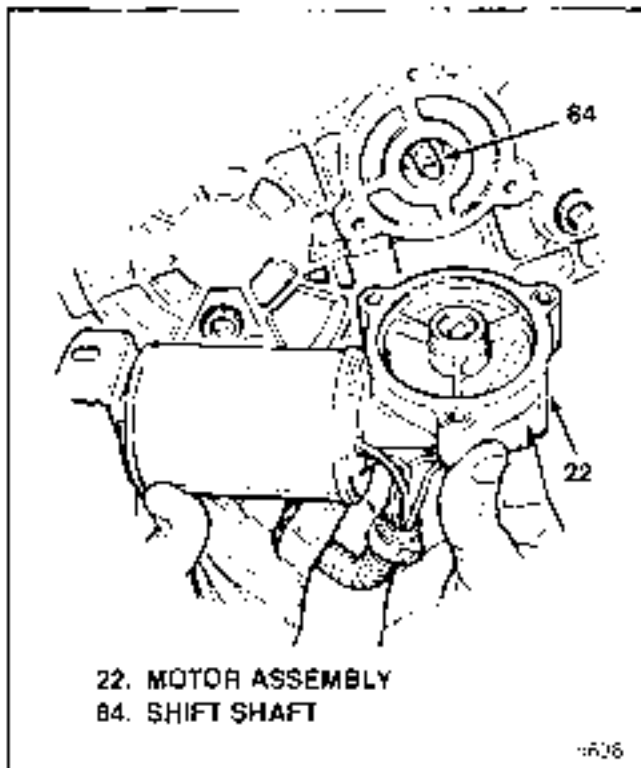
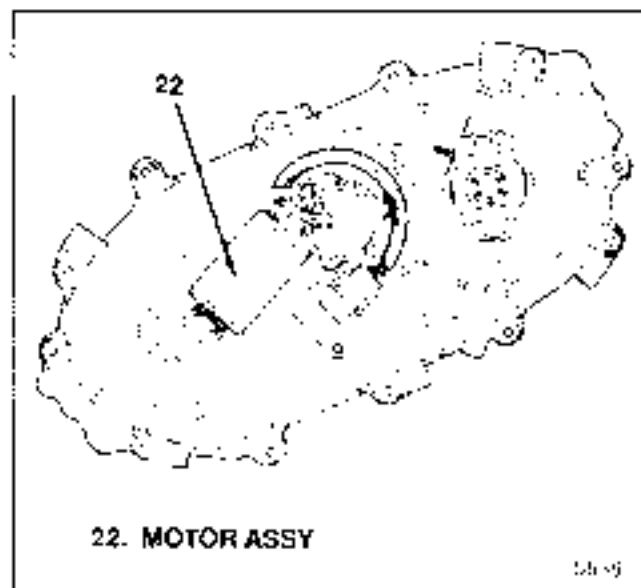

Figure 5-24. Motor Assembly Alignment
Figure 5-25. Motor Location
b. Position motor assembly (22) so that triangular slot in motor will align with shaft (84) (see figure 5-24). Move motor in to engage shift shaft and contact cover (35). Then rotate motor in clockwise direction until motor is in correct position (see figure 5-25) and mounting holes are aligned. Install bolts (16) and torque to 6-8 lb-ft (8-11 Nm).
c. Install bolt (15) at bracket end of motor assembly (22) and torque to 6-8 lb-ft (8-11 Nm).
d. Fit o-ring (21) on speed sensor (20) and install in cover.
e. Attach bracket (18) with bolts (17) and torque to 6-8 lb-ft (8-11 Nm).